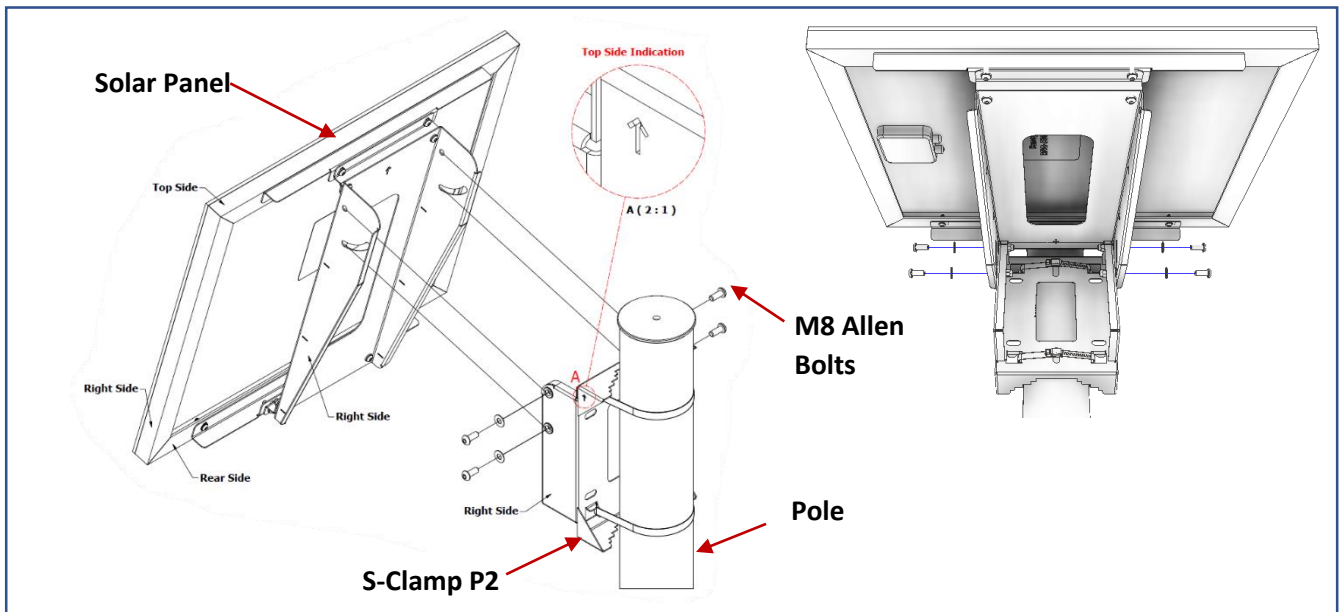

Fig.6
STEP 7: Join **Solar Panel unit** (previously joined in STEP 3) with **S-Clamp (P2)** using **M8 Allen Bolts** and **M8 Washers**. **Fig.6**